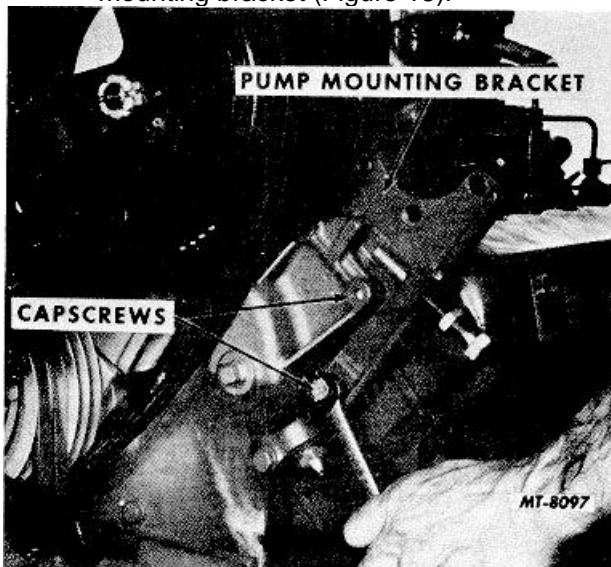

Fig. 18 Removing Power Steering Pump Mounting Bracket
3. Remove two pump mounting bracket capscrews and lockwashers and remove mounting bracket (Figure 18).